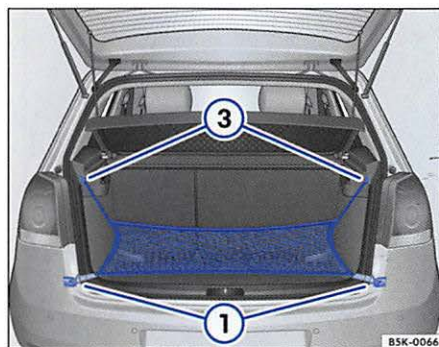

Fig. 93 In the luggage compartment: Tie-down hooks ① and hooks ③ for hanging the luggage net.
- Secure the short luggage net hooks to the tie-down hooks ⇒ fig. 93 ① ⇒ ⚠. The luggage net zipper must face upwards.
- Attach the loops to the shopping bag hooks ③.